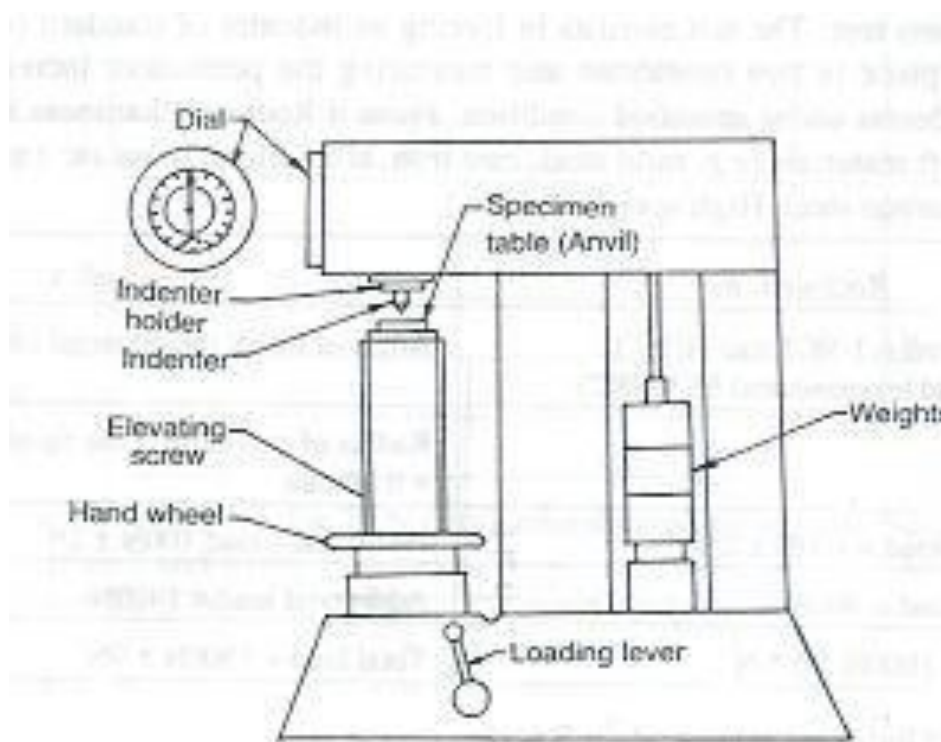

Figure 1: Rockwell hardness test equipment
Ultimate Strength: When the material has passed through the yielding point, stress continues to increase with strain, but at a slower rate than in the elastic range, until a maximum value is reached which is termed the ultimate strength (point C in Figure 1). The increase in stress upon yield stress is due to material strain hardening. Beyond point C , the stress decreases until the specimen ruptures at point D .
1. Examine hardness testing machine (fig.1).